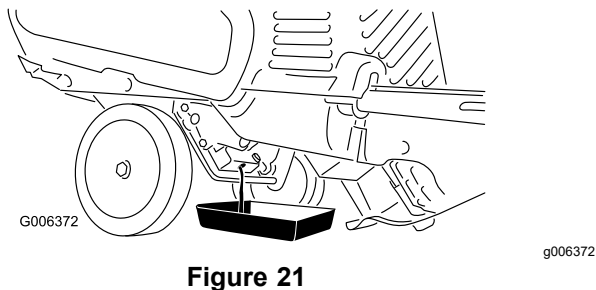

Figure 21
3. Place an oil-drain pan under the oil-drain plug, remove the plug, and tip the machine backward and drain the used oil in the pan (Figure 21).